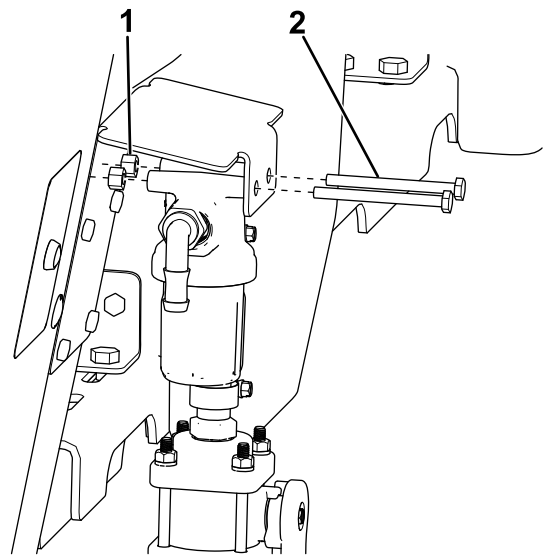

Figure 34
3. Mount the filter to the filter bracket using 2 bolts (1/4 x 3 inches) and nuts (Figure 34), then continue to step 5.